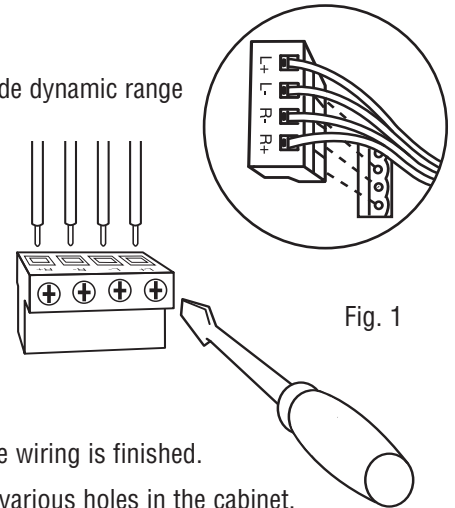
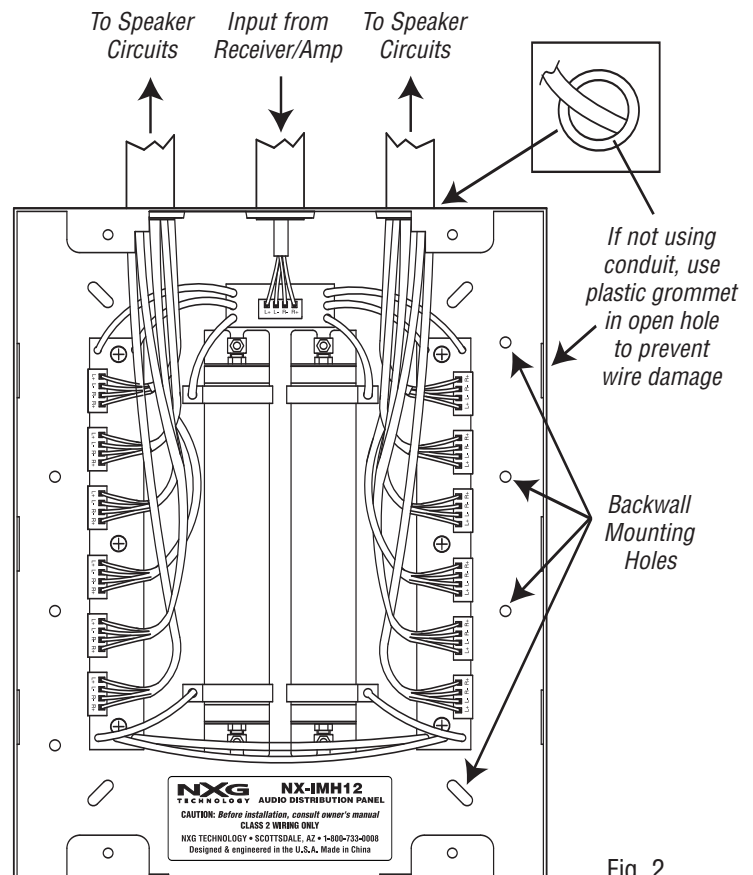

Fig. 1
Fig. 2
6. Remove the connector blocks from the NX-IMH12 panel PC boards and make all the connections to the connector blocks as shown in Fig. 1. (If your receiver or amplifier has both A & B outputs connect your NX-IMH12 to your receiver's "A" outputs.) Pay close attention to make certain all strands of bare wire are completely inserted into the connector properly and that no loose strands are outside the connector hole. Any loose strands could possibly touch another wire and short the receiver's output. After you have tightened the screw terminals to secure the wires, insert the connector block back into NX-IMH12 as shown in Fig 2.